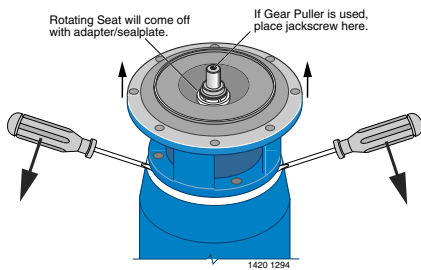

Figure 3
7. Use two screwdrivers (Figure 3) or bearing puller to carefully separate motor from adapter/seal plate, bringing rotating half of seal (Key No. 10) off with adapter/seal plate. Shaft sleeve may come off with seal.